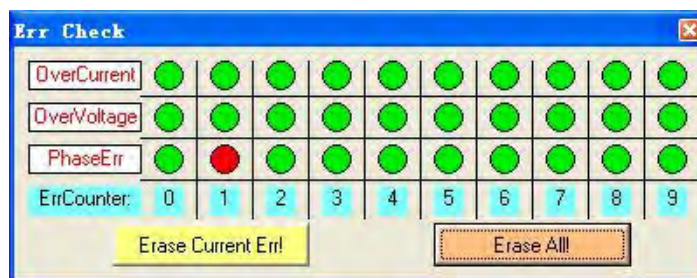

Figure 28: Error check window
- **Error Check:** This window shows both the present status of each error event and their history. Current error event(s) can be reset by clicking **Erase Current Err!** button, and all error events can be reset by clicking **Erase All!** button. List of the last ten drive faults. #0 being the most recent, #9 is the oldest. See Figure 28.